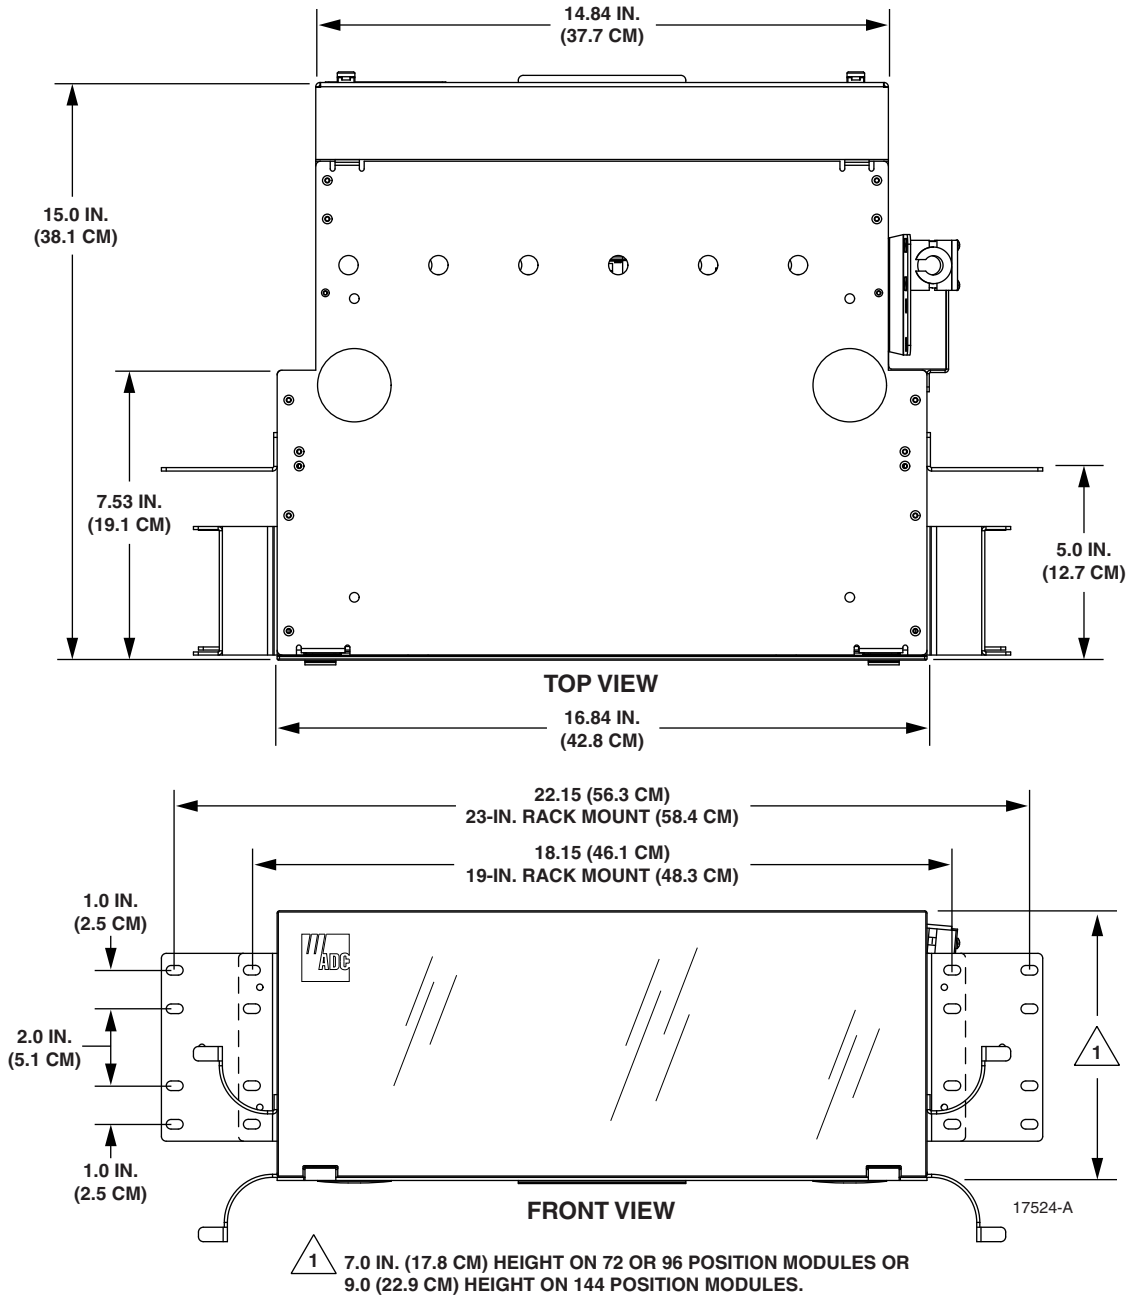
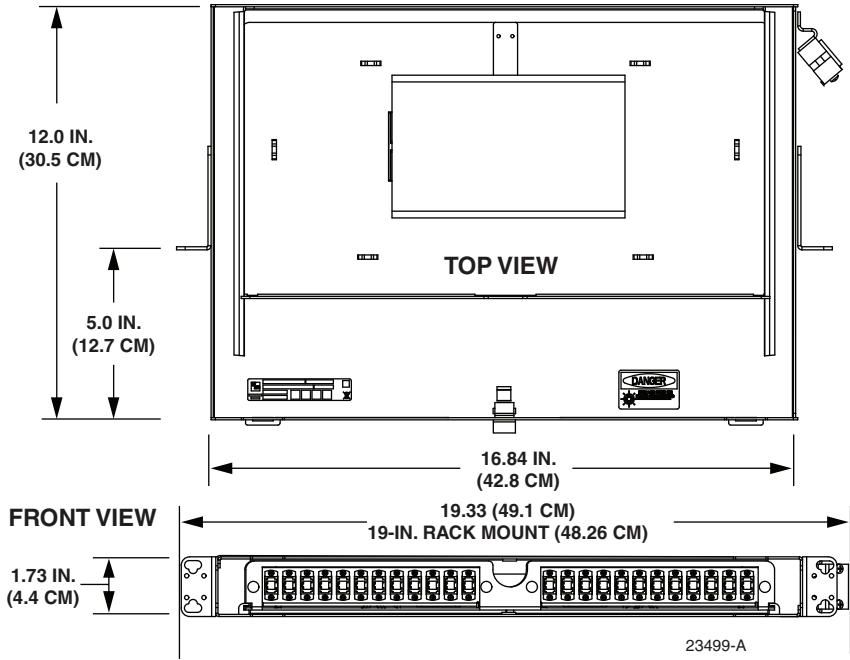
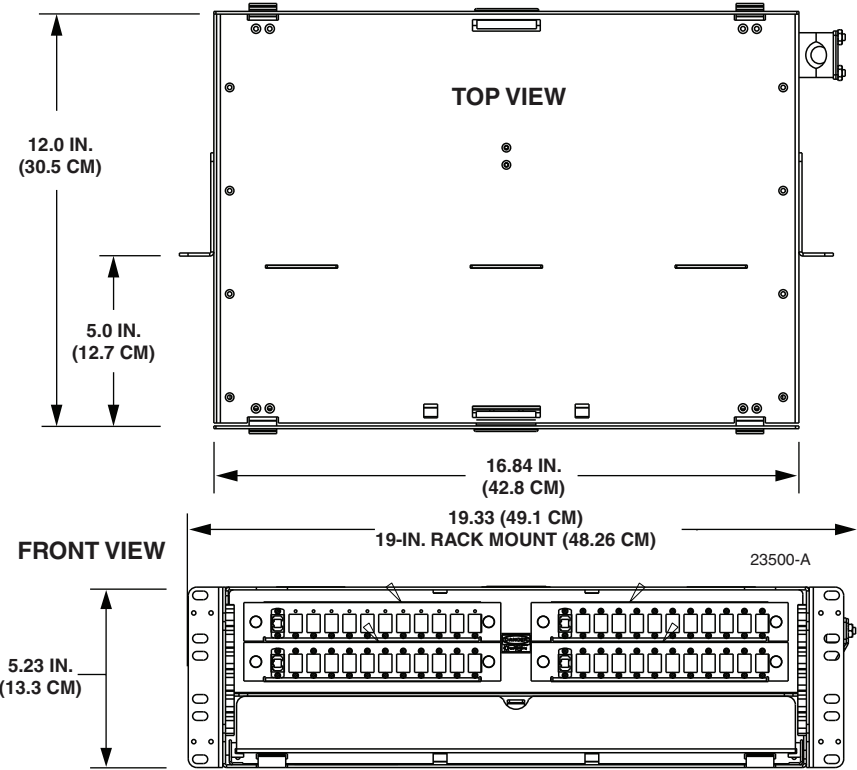

Figure 4. Dimensions for 7-Inch and 9-Inch High Panel
Figure 5. Dimensions for 1.75-inch High Panel
Figure 6. Dimensions for 3.50-inch High Panel
Figure 4 shows dimensions for the most common chassis heights, 7-inch and 9-inch. Figure 5 shows dimensions for 1.75-inch high panel. Figure 6 shows the 3.75-inch high panel.
- a. If installing the panel on a 19-inch rack, remove the two mounting brackets and re-install them using the 19-inch orientation (refer to Figure 4).